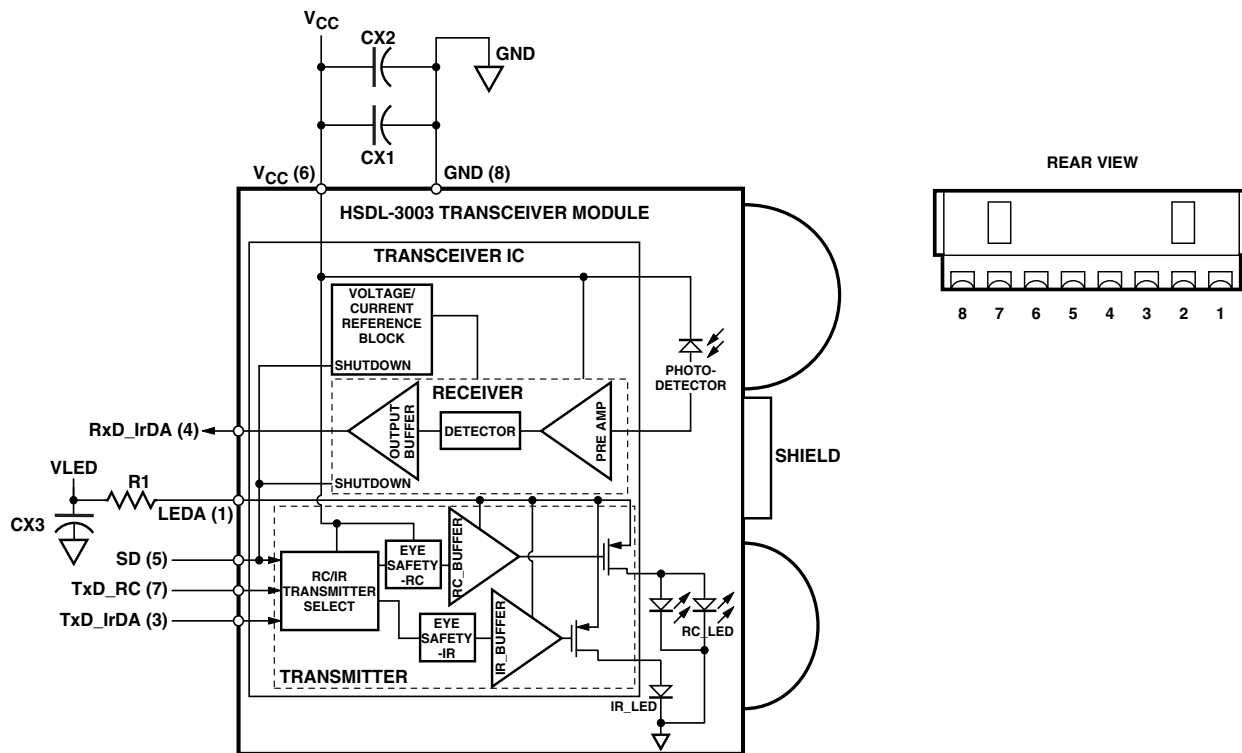

Figure 1. Functional block diagram of low power IrDA link distance and remote control.
2. The supply rejection performance can be enhanced by including CX2, as shown in Figure 1, in environment with noisy power supplies.